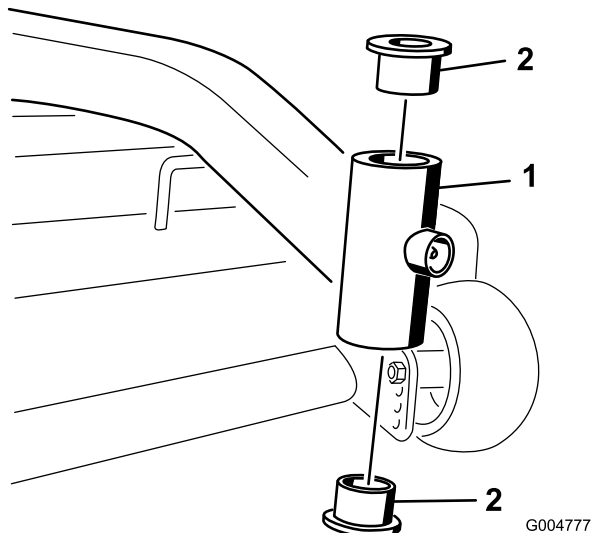

Figure 41
4. Insert a pin punch into the mounting tube and carefully drive out the bushings (Figure 41). Clean the inside of the mounting tube.